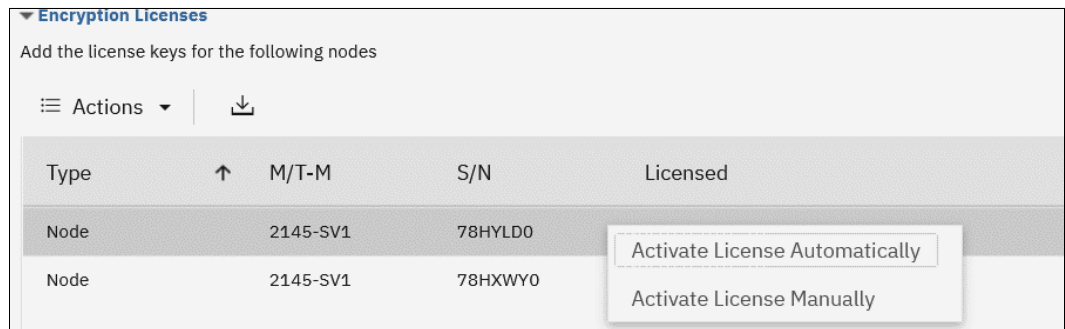

Figure 12-10 Select the node on which you want to enable the encryption
3. The Encryption Licenses window displays information about your nodes. Right-click the enclosure on which you want to install an encryption license. This action opens a menu with two license activation options (**Activate License Automatically** and **Activate License Manually**), as shown in Figure 12-10. Use either option to activate encryption.